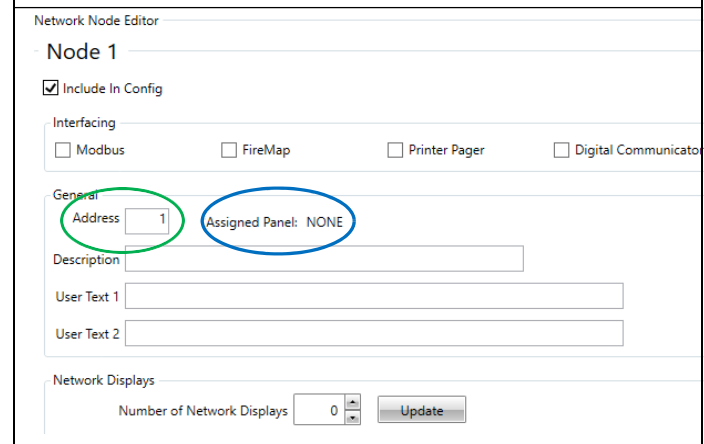

Figure 20-32: Network Node Editor
- In the "General" sub-window is an address field (Figure 20-32 Green oval). The address must match the address on the NET2CARD for this node. Addresses will be assigned to the nodes sequentially as they are added to the component tree, but they can be easily changed by typing the new address. Addresses don't need to be sequential or adjacent to others. The network nodes can also be physically connected in any order within the network.
- At this stage, there is no "Assigned Panel" so this field will say "NONE" (Figure 20-32 Blue oval). Refer to Section 20.5.4.6 Configuring Panels for assigning panels to nodes.